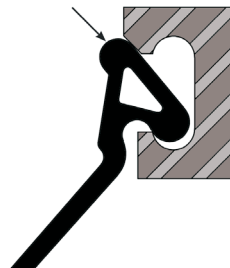

Figure 2
4. Push the bottom lug into the channel and using D.S. Brown’s Strip Sealer installation tool, force the top lug into the top of the channel. (**See Figure 2**)